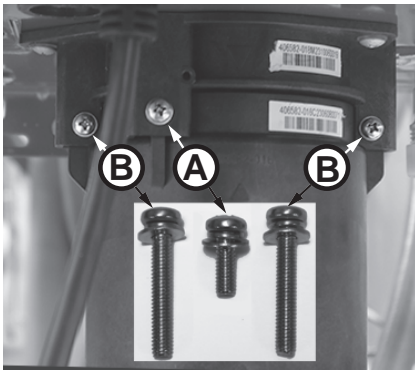

Figure 184 - Identify cartridge screws
5 Locate the three (3) screws securing the X3®/Bypass cartridge as shown in Figure 184. Remove the **(A)** M4-12mm screw and the two **(B)** M4-25mm screws from cartridge. Place screws aside in a safe place for reinstallation.